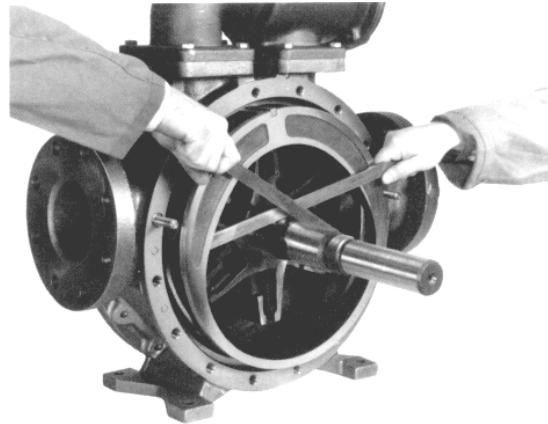

Figure 5 – Liner Removal
- a. Slide the bearing (24) out of the bearing cavity.
7. Remove the head capscrews (21) and head stud nuts (21C). Two jackscrew holes are provided in the rim of the head to facilitate removal.
8. Remove the head (20 or 20A) from the casing (12), being careful not to nick or scrape the shaft.
9. The disc (71) will come off with the head assembly and is attached with four countersunk, allen-head machine screws (71A) and lockwashers (71B).
11. From the open side of the pump, grasp the rotor in the 3 and 9 o'clock positions, and gently pull the rotor and shaft (13) out of the head assembly remaining on the casing. **CAUTION:** Use care to avoid injury, the rotor and shaft is heavy and may have sharp edges.
13. Depending on the pump application, the liner (41) can be removed in two ways:
- a. If the pumpage is a clean, non-corrosive liquid, with low viscosity, the liner can usually be withdrawn from the casing by prying with two bars. Insert the tips of the bars into the port openings on either side of the liner, and partially remove the liner by prying against the rotor. Use a block under the bar, against the rotor, to bring the liner the rest of the way out (see Figure 5).